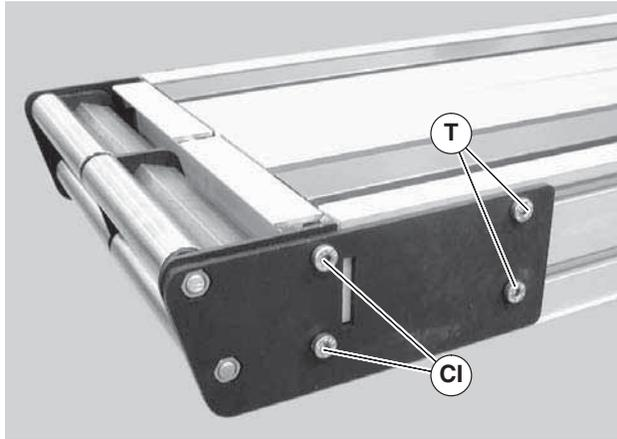
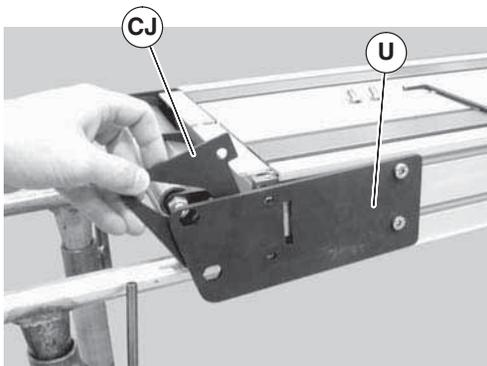
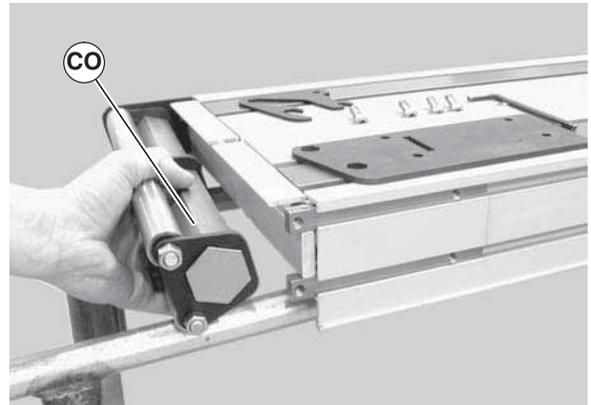

Figure 66
Figure 67
Figure 68
2. On one side of conveyor, loosen the two (2) back fastening screws (Figure 66, item T), and remove the two (2) front fastening screws (CI).
3. Pull back the outer headplate (Figure 67, item U) and remove the inner spacer (CJ).
4. Slide the transfer tail pulley assembly (Figure 68, item CO) out of the headplate on the opposite side.
Transfer tail assembly must be removed as on piece. Removal may require removing screws T of Figure 66 and headplate U of Figure 67 as shown in Figure 68